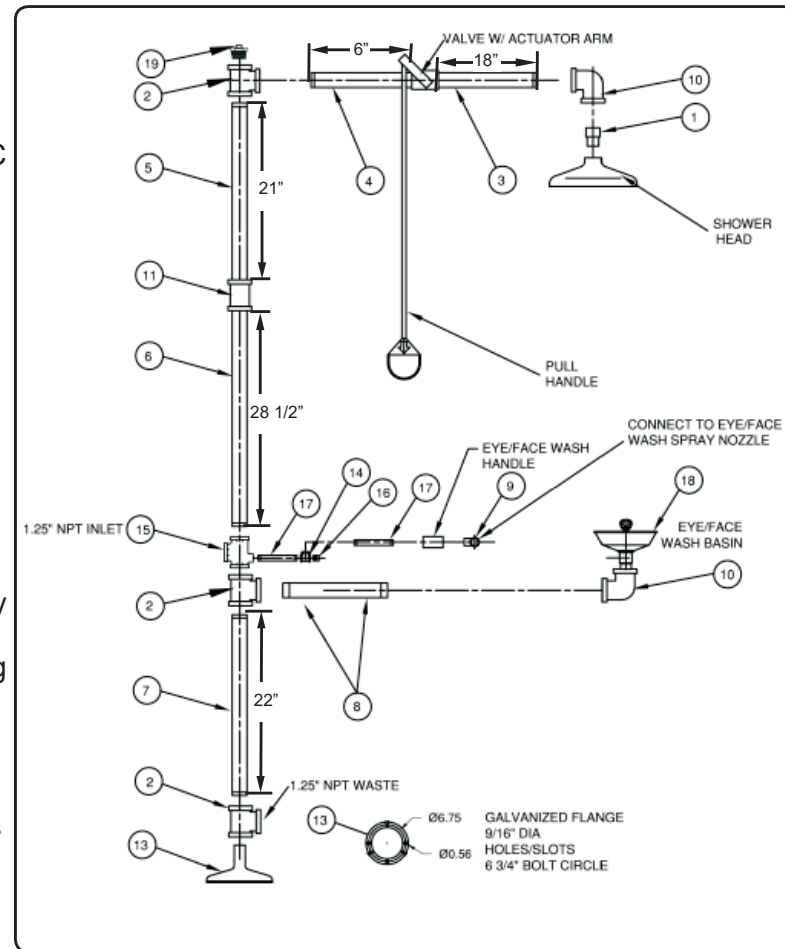

figure 1
- See figure 1 Installation layout for reference.